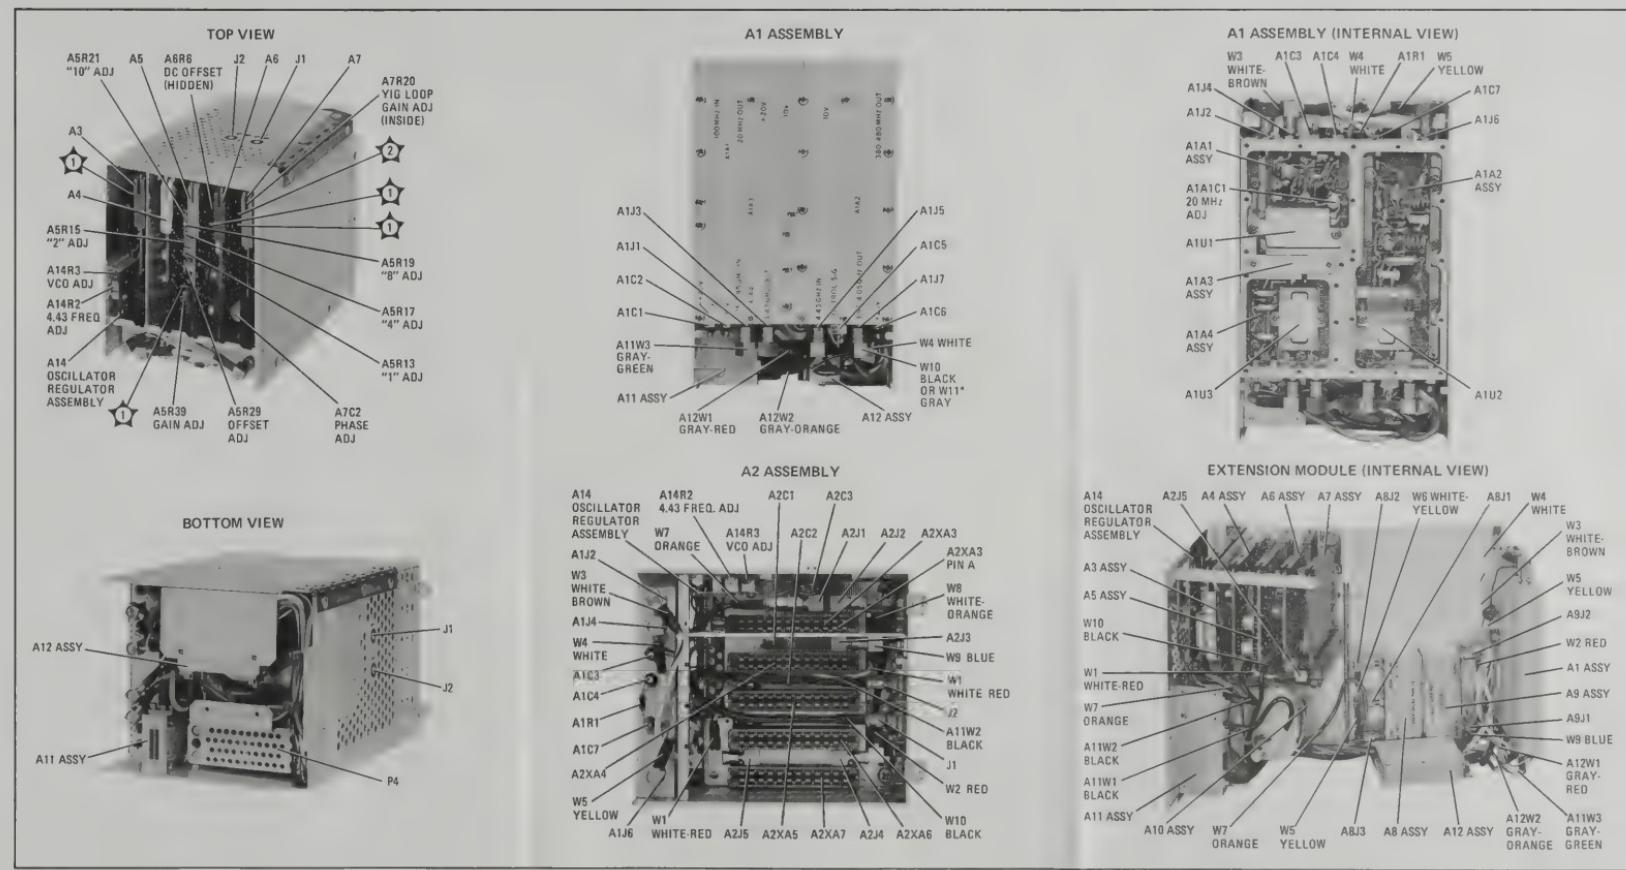

Figure 8-17. Assemblies, Chassis Mounted Parts, Adjustment Locations and Test Point Locations
- To open the Frequency Extension Module as shown in Figure 8-17 under Extension Module Internal View, remove the two screws on the side of the case marked "REMOVE FOR SERVICE" (shown in Figure 8-16).